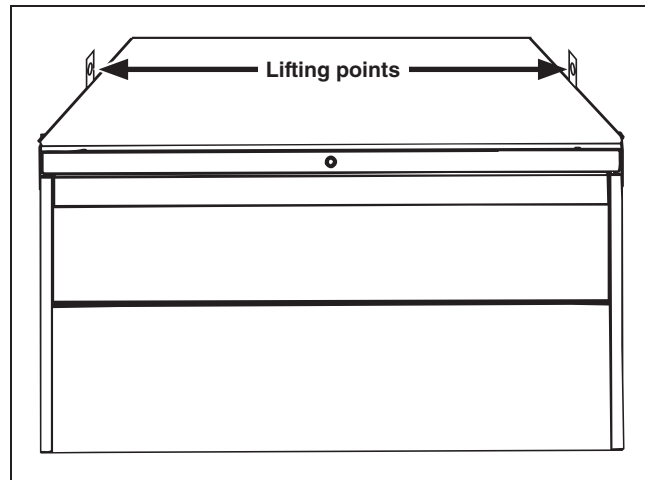
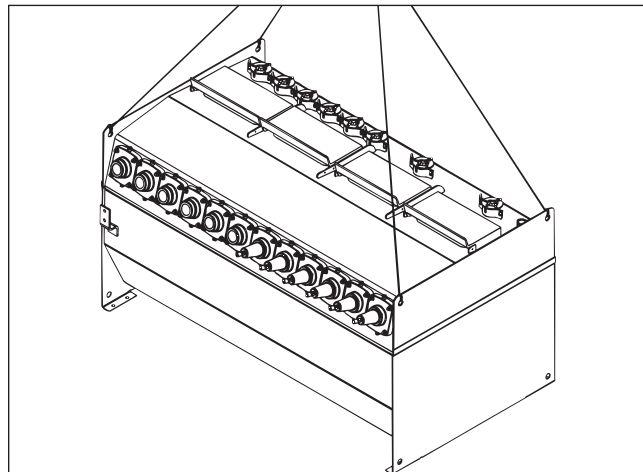
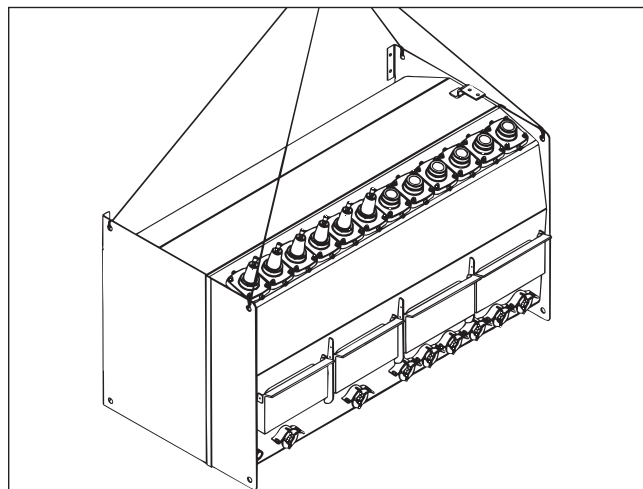
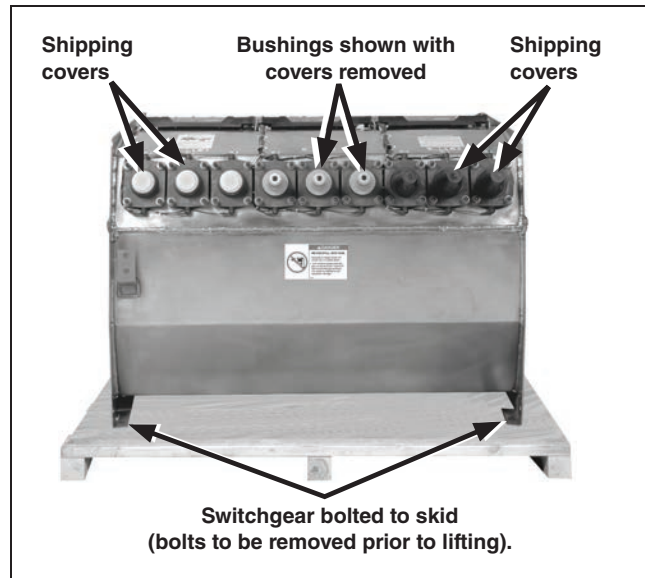

Figure 1. The enclosure for pad-mounted style.
Figure 2. A properly slung tank for the typical UnderCover style or pad-mounted style.
Figure 3. A properly slung tank for the typical vault-mounted style.
Figure 22. A Vista switchgear tank bolted to a skid for shipment.
- STEP 1.** Remove and retain the anchor brackets tie wrapped to the enclosure or tank grounding pad. Use 6-foot (1829-mm) or longer hoist slings of equal length to prevent damage to the enclosure or tank during lifting. (Four-foot (1219-mm) hoist slings are acceptable for two-way and three-way enclosures and tanks.) See Figure 1, Figure 2, and Figure 3.
- STEP 2.** Unbolt the tank from the skid and lift it above the mounting pad, observing the precautions given under the “Handling” section on page 8. See Figure 8. Use a four-point lifting scheme to properly balance the gear. See Figure 2 on page 8.
- STEP 2.** Unbolt the tank from the skid, remove the switchgear from its crate, and lift the gear into place, observing the precautions given in the “Handling” section on page 8. See Figure 2 on page 8 and Figure 22.